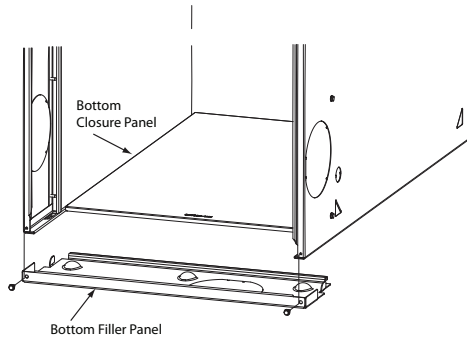

Fig. 9 - Removing Bottom Closure Panel
1. Tilt or raise furnace and remove two screws holding bottom filler panel. (See Fig. 9)